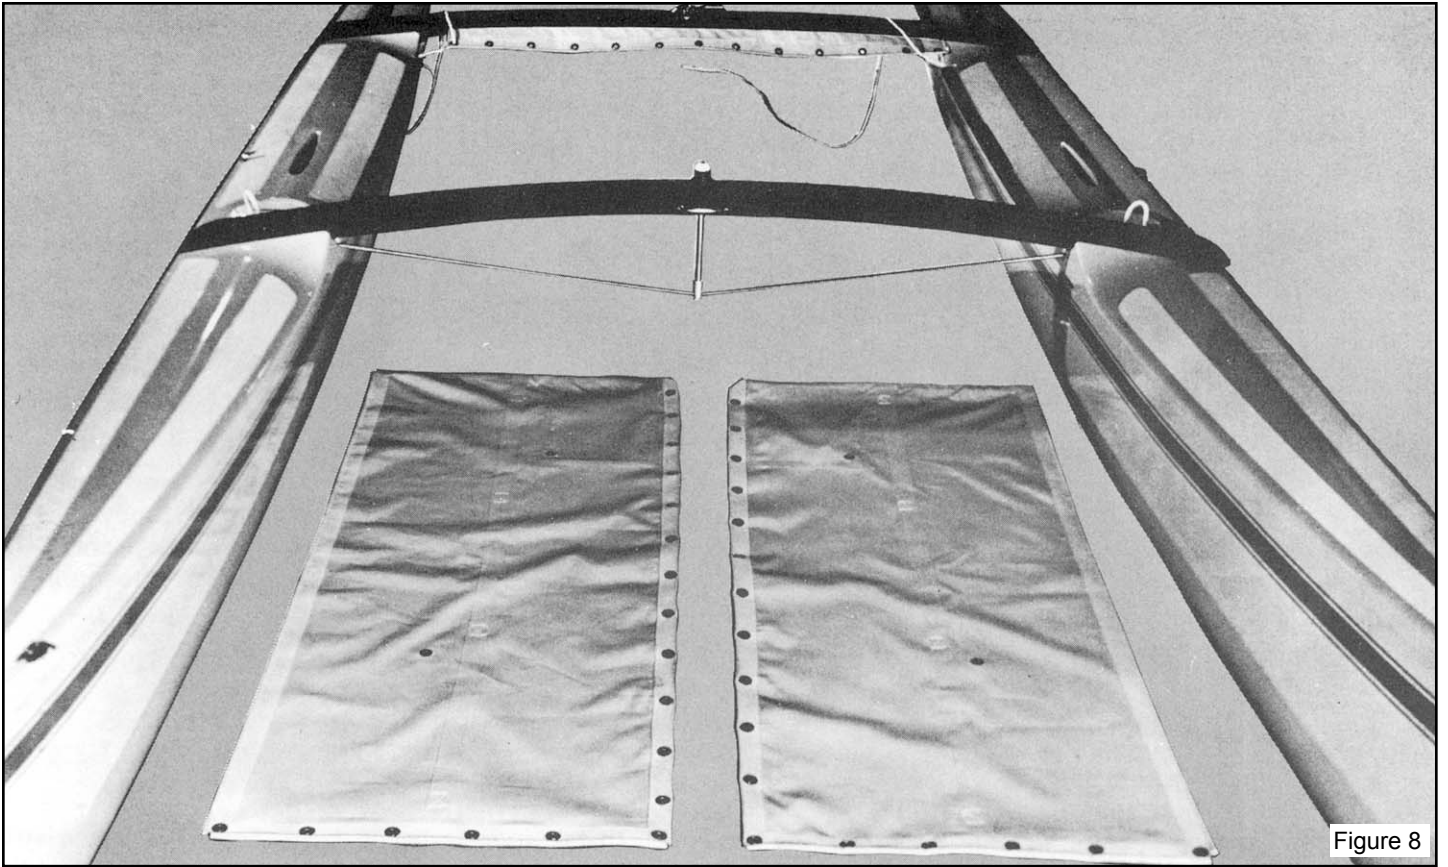

Figure 8
2. Lay the trampoline halves face down forward of the front cross bar and between the hulls. The long row of grommets should be on the inside and the short row of grommets will be up at the bow. See Figure 8